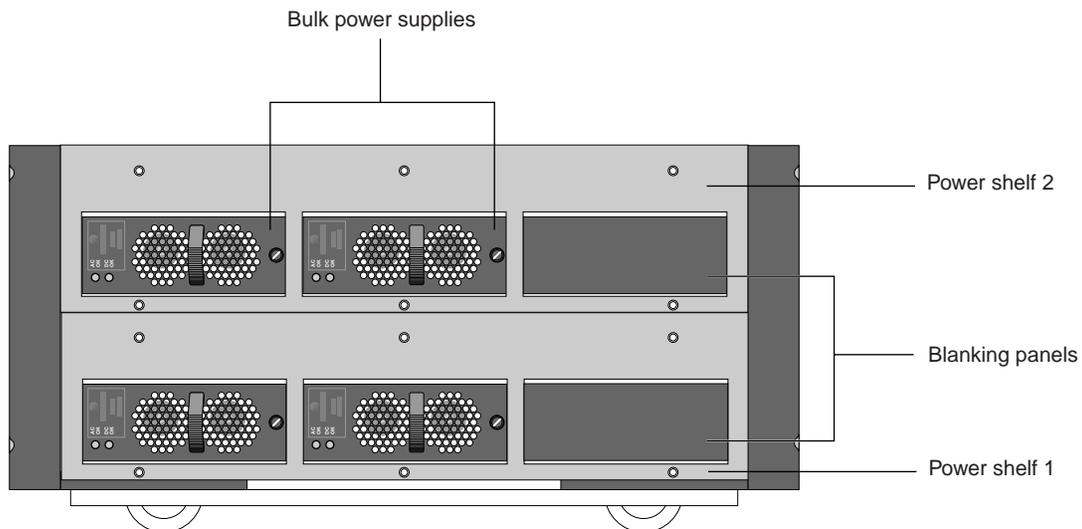

Figure 24. Location of Power Supplies
Figure 24 shows the location of the power supplies in the storage subsystem.
4. Locate the power supply shelf. Figure 24 on page 24 shows the location of the bulk power supplies.
Note: Only the two bulk power supply slots on the left side of the power shelf are available for installing bulk power supply modules. The the right-hand slot is inactive and should not be used (Figure 24 on page 24).
4. Locate the power supply shelf (Figure 24 on page 24).
The NS 7000/030 contains up to two power shelves, each with three slots for bulk power supplies. Although each shelf contains three slots, only two are used in each, and the third slot is blank (nonfunctional), as shown in Figure 24 on page 24. Use the procedure in this section for replacing a power shelf chassis.